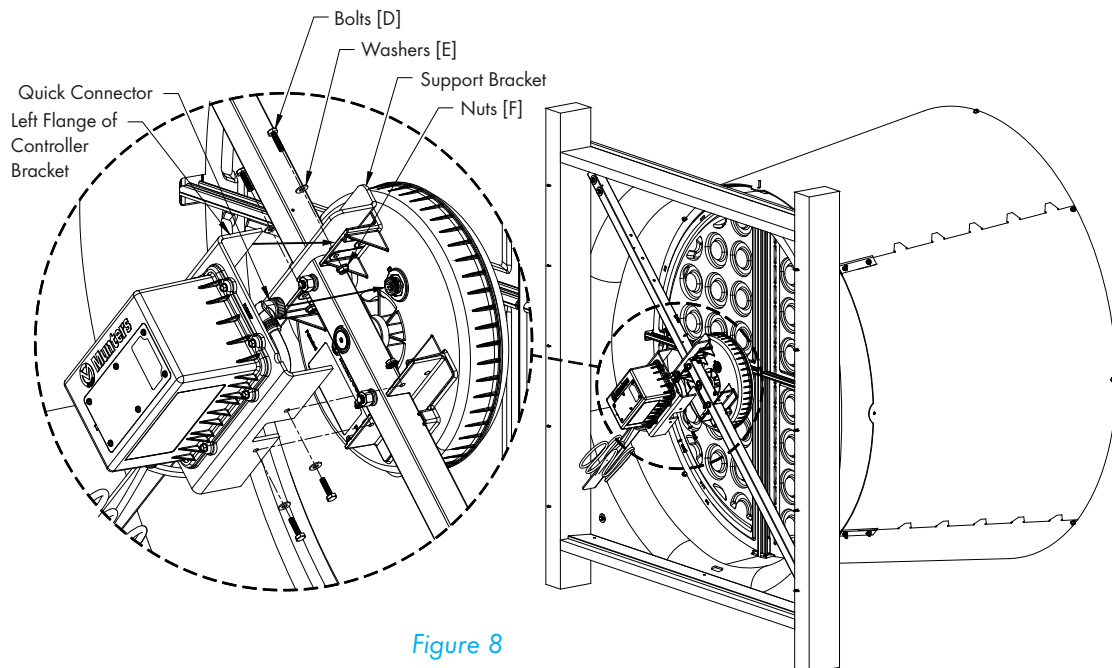

Figure 8
Carefully remove Munters Drive Controller from foam packaging and reconnect the quick connect connector to the motor. Then position controller mounting bracket over strut with the left flange of bracket between Motor flange and Support Bracket and fasten in place with (4) Bolts [D], Washers [E] and Nuts [F]. See Figure 8.